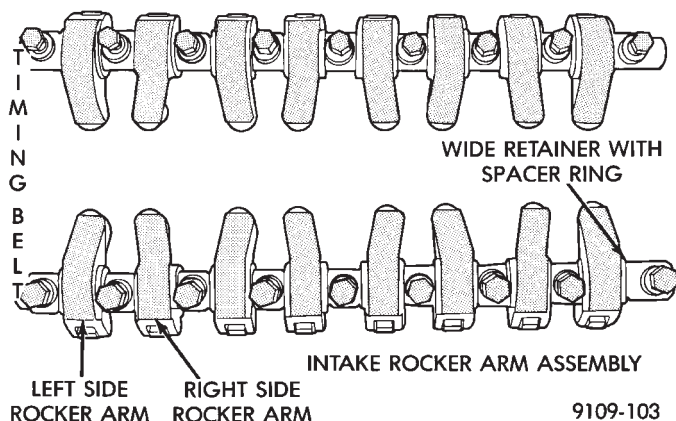
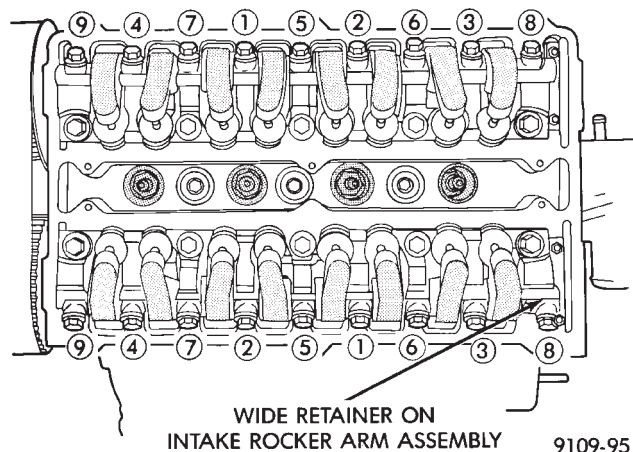

Fig. 9 Intake and Exhaust Rocker Arm Assemblies
Fig. 10 Rocker Arm Shaft—Installation
- (1) Install rocker arm on the shaft in there original position (Fig. 9).
- (2) Install hydraulic lash adjusters making sure that adjusters are at least partially full of oil. This is indicated by little or no plunger travel when the lash adjuster is depressed.
- (3) Install rocker arm shaft assembly tighten in sequence shown in (Fig. 10).
- (4) Install valve cover as previously outlined.